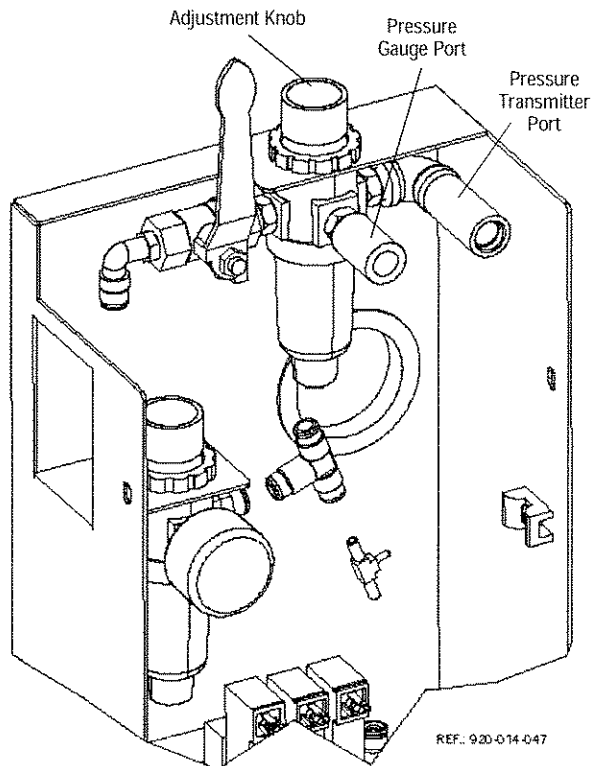

Figure 4-7. Pressure Calibration Jig
1. Disconnect the pressure transmitter from piping and connect pressure transmitter to the pressure transmitter port (P11702-270) on pneumatic box (see Figure 4-7).
2. Install pressure gauge (0-60 psig, or 0-414 kPa if units 380/400/415V, 50 Hz) where shown on Figure 4-7.